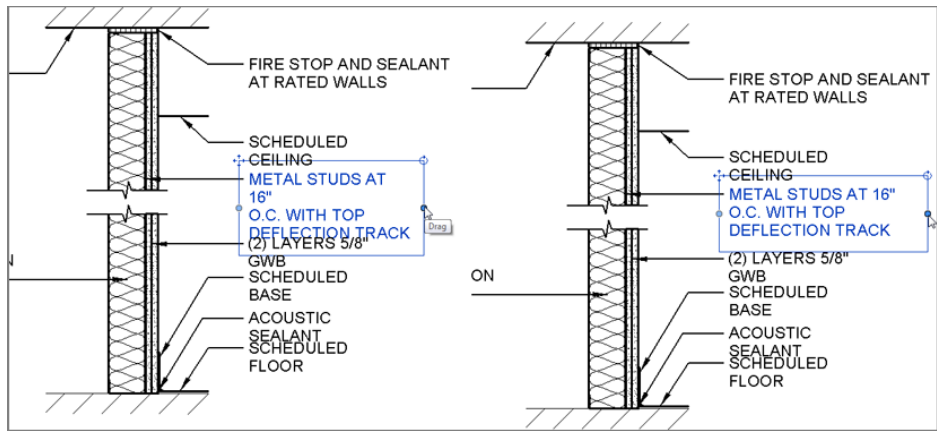

FIGURE 11.59: Fixing the improperly wrapped text
4. Pick the grip to the right, and drag the text box to the right until the text wraps into the correct position, as shown in Figure 11.59.